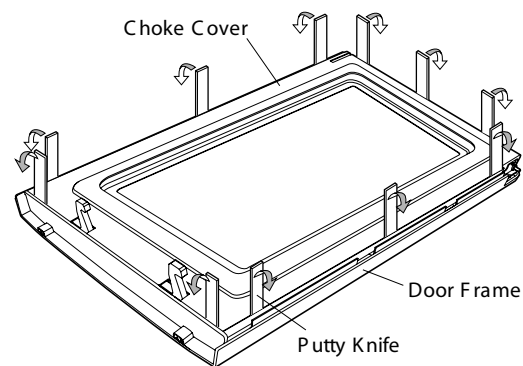

Figure C-5. Door Disassembly
3. Insert a putty knife (thickness of about 0.5mm) into the gap between the choke cover and door frame as shown in Figure C-5 to free engaging parts.
4. Pry the choke cover by inserting a putty knife as shown Figure C-5.